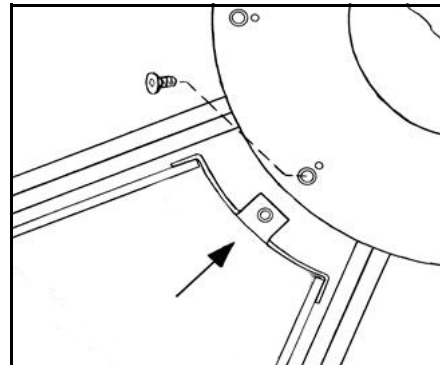

Figure 21 Nose entering hub plate (ERC 81-86 ONLY includes a screw).
- 5 For ERC-81 and ERC 86, use a 3/16-inch Allen wrench to remove the nose bolt securing the segment to the hub plate, Figure 21.
- 6 Remove segment by sliding outer portion of segment out first before disengaging the nose, Figure 21. A flathead Screwdriver may be used to aid segment removal. Be careful not to bend the segment frame or wheel rim.
- 3 From the pulley side, slide segment into place nose first, Figure 21, then push outer portion of segment in to wheel frame. If you are installing an ERC-81 or ERC-86, use a 3/16-inch Allen wrench and the nose bolt to secure the segment to the hub.